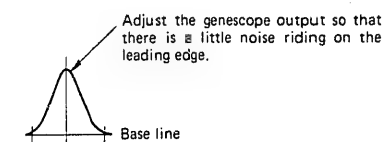

Fig. 3
1. Feed in a weak signal to L103 from the genescope. Adjust T102, T103, T104 and T105 for maximum gain and the waveform indicated in Figure 3. If the center of the waveform cannot be lined up on the marker, adjust the right/left balance.